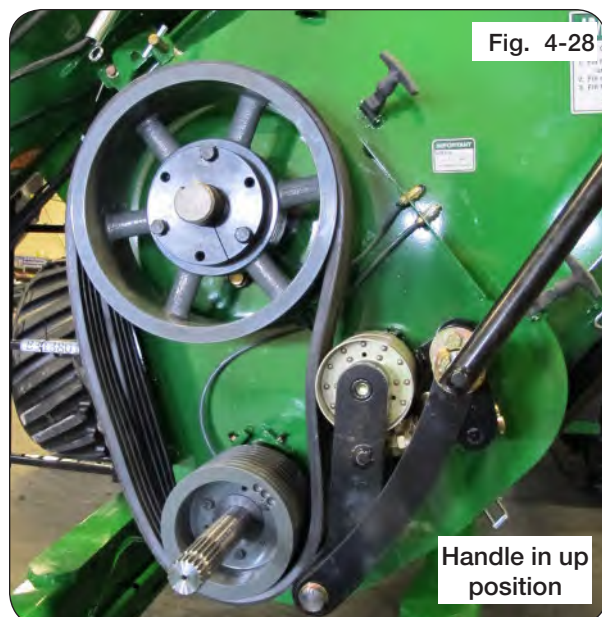

Fig. 4-28
6. Check the lower belt pulley to ensure belt is aligned in their grooves. Using the belt tensioner handle, engage the roller/idler linkage against the belt and over-center stop. The compressed spring should now be approximately $1\frac{3}{4}$ " between the washers and generating a force of approximately 480 lbs. against the belt. (Fig. 4-28)
7. Release and tighten belt multiple times to confirm positions and final adjustments. See Fig. 4-28 and Fig. 4-29.